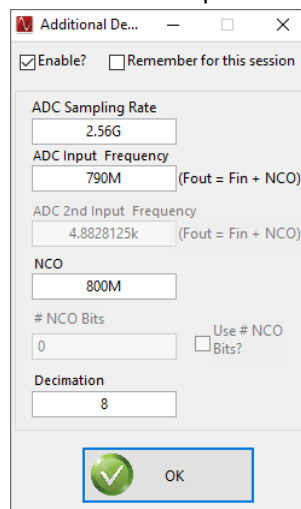

Figure 4-3. Additional Device Parameters , 8x complex decimation
- Check the tickbox labeled "Enable?" and then enter the parameters shown in Figure 4-3.